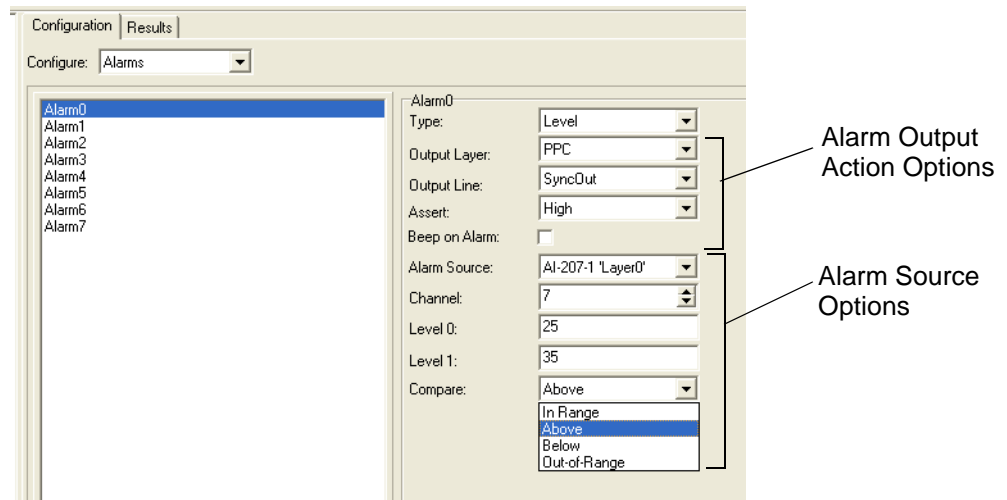

Figure 2-28. Configuring a Level Alarm Source
STEP 1: In the *Type* box, pull down the menu and select *Level*. The screen shown in **Figure 2-28** appears.
The alarm source options (see **Figure 2-28**) for a Level alarm are: